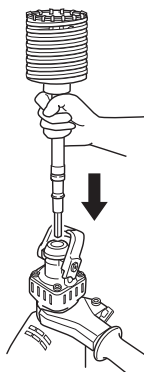
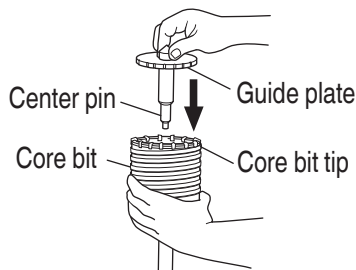

Fig. 29
Fig. 30
- (2) Mount the core bit shank to the Rotary Hammer. (Fig. 29)
- (3) Insert the center pin into the guide plate until it stops.
- (4) Engage the guide plate with the core bit, and turn the guide plate to left or right so that it does not fall even if it faces downward. (Fig. 30)